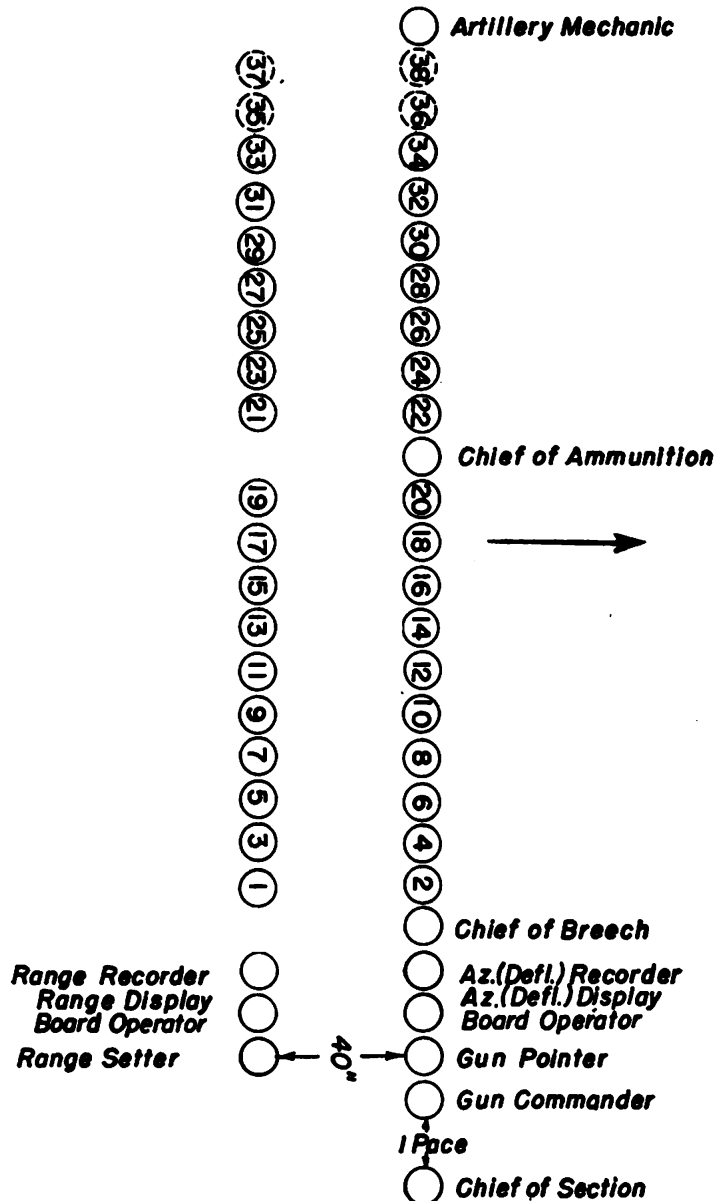

FIGURE 11. Formation of gun section for 12-inch gun on barbette carriage.
17. Notes on drill.—Q. What is the formation for the gun section of the 12-inch gun on barbette carriage? A. See figure 11.